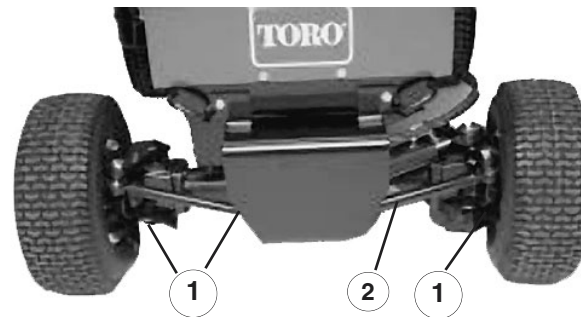

Figure 38
2. Clean the area around the three drain plugs, (1) on each end and (1) in the center (Fig. 38).
2. Remove the nuts securing one tie rod ball joint to the mounting bracket on the axle and disconnect the ball joint from the axle (Fig. 38).